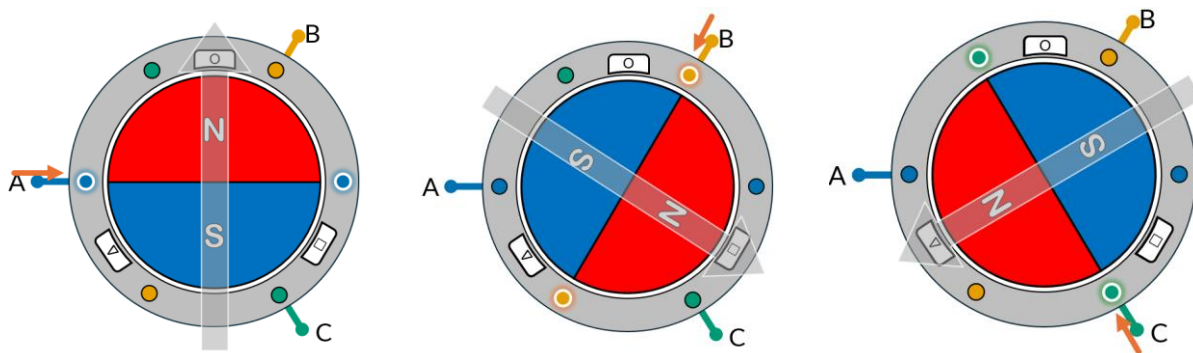

Figure 1. Magnet positions and magnetic fields when energizing a single coils with all 3 enabled
5. As noted in the concept reviews, the hall sensor outputs a 1 when they detect a north pole in the magnet close by. When energizing a coil, a magnetic field is generated. In this special case where 3 coils are enabled, 1 as high and 2 as low, the magnetic field generated is as shown with a white arrow in Figure 1, which would move the magnet into the positions shown in the image. Note that the figure has coils named A, B, and C, and the sensors are denoted with shapes: a circle, triangle and square.
6. Run **bldc_hall.py**, it will run for 30 seconds, look at the printed output, note what hall sensor goes high when each of the coils is activated. Based on that, where would you place sensor 1, 2 and 3 in Figure 1? Which one would be the circle, triangle and square?